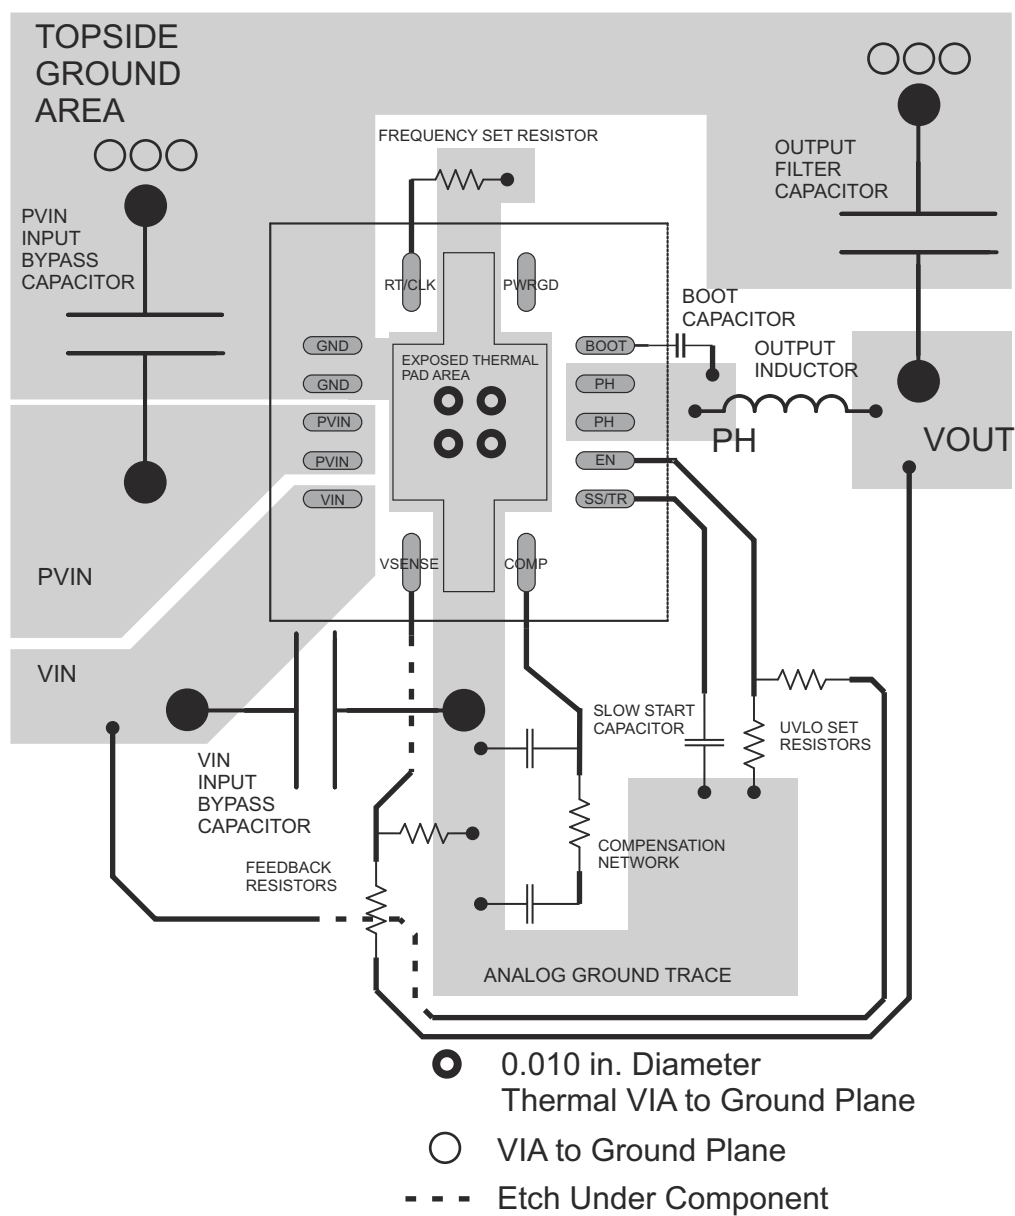

图 10-1. PCB Layout
The TPS54622-EP is designed to operate from an input voltage supply range from 4.5 V to 17 V. This supply voltage must be well regulated. Power supplies must be well bypassed for proper electrical performance. This includes a minimum of one 4.7- μ F (after derating) ceramic capacitor, type X5R or better from PVIN to GND, and from VIN to GND. Additional local ceramic bypass capacitance may be required in systems with small input ripple specifications, in addition to bulk capacitance if the TPS54622-EP device is located more than a few inches away from its input power supply. In systems with an auxiliary power rail available, the power stage input, PVIN, and the analog power input, VIN, may operate from separate input supplies. See Figure 10-1 for recommended bypass capacitor placement.
- Layout is a critical portion of good power supply design. See Figure 10-1 for a PCB layout example.